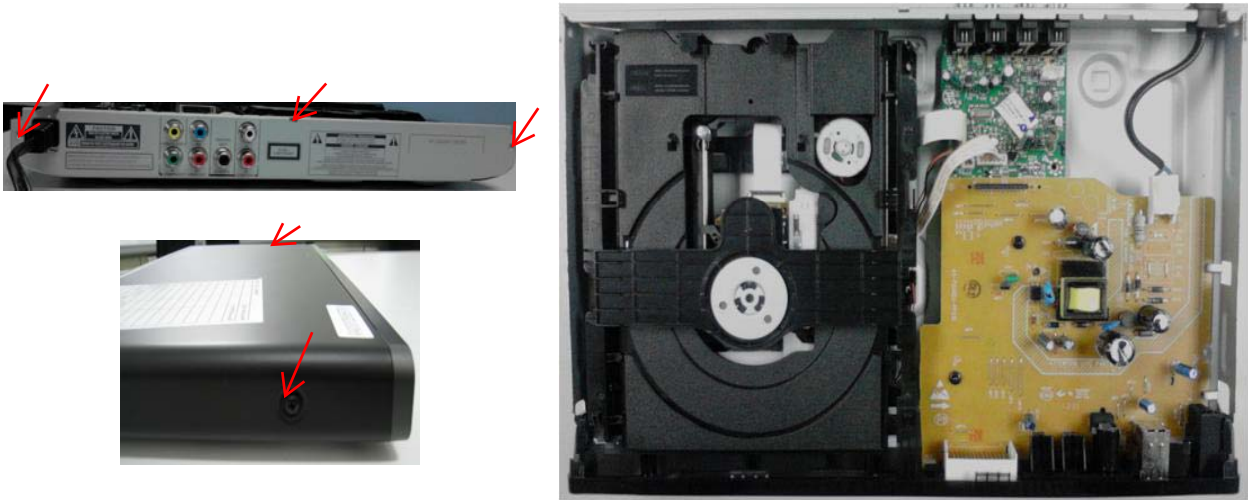

Figure 1
Step1: Remove 5 screws around the Top Cover, and then remove the Top Cover (Figure 1).